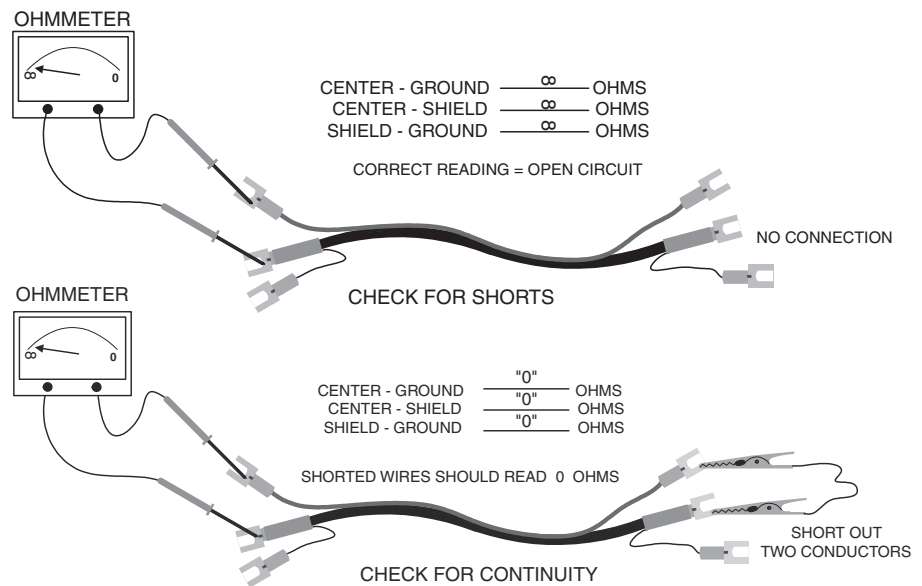

Figure 4-3
2. Using an ohmmeter measure the resistances as shown in Figure 4-3